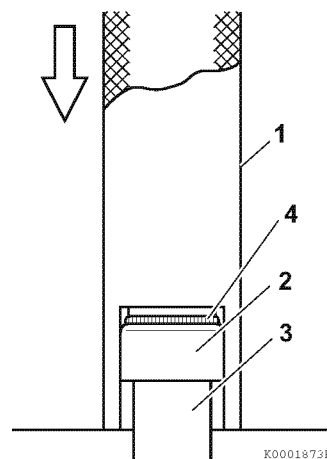

Figure 6-26
The exhaust valve stem seals are different than the intake valve stem seals and can be identified by the color the seal spring (4, **Figure 6-26**). Ensure they are installed in the correct locations.
1. Oil the lip of the valve stem seal (2, **Figure 6-26**). Using the valve stem seal installation tool (1, **Figure 6-26**), install a new valve stem seal on each of the valve guides (3, **Figure 6-26**).